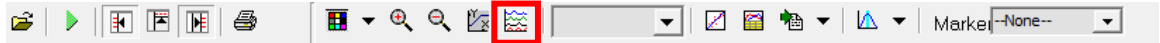

Figure 5. Browse by all color icon from GeneMarker™ HID toolbar.
5. To view and review the profile in detail, select the Browse by All Color icon from the tool bar (Figure 5).